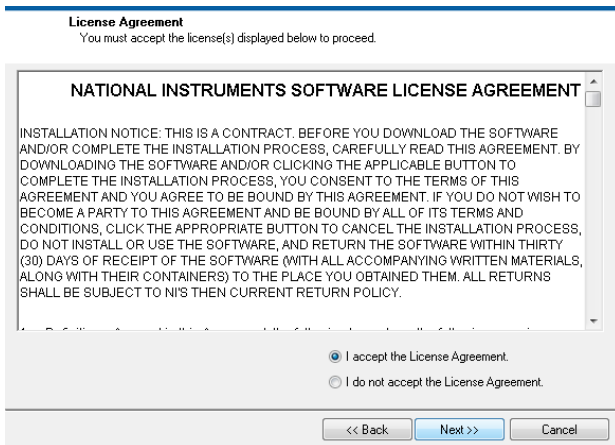

Figure 7. Accepting the License Agreement
- A license agreement appears. Read the agreement, and then select **I accept the License Agreement** and click **Next** (see Figure 7).